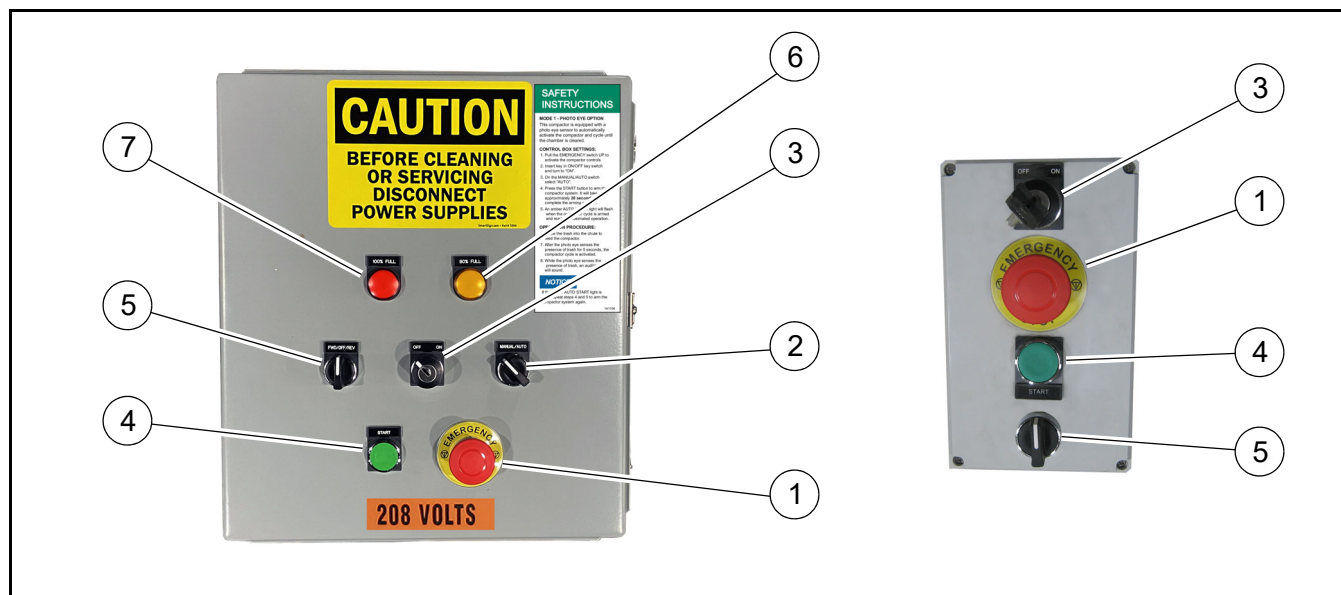

Figure 16
2. Pull UP on the EMERGENCY Switch (**Figure 16, 1**) to enable the Compactor controls.
3. Insert key in OFF/ON Security Switch (**Figure 16, 3**) and turn clockwise to ON position.
4. Determine pack mode and make selection on MANUAL/AUTO Switch (**Figure 16, 2**).
1. Depress the START Button (**Figure 16, 4**) for 1 to 2 seconds, then release.
1. The FWD/OFF/REV Switch (**Figure 16, 5**) is normally in the OFF position.
There are two container full lights located at the top of the control panel cover. The yellow 80% FULL light (**Figure 16, 6**) indicates when the container is approximately 80% of full capacity. The red 100% FULL light (**Figure 16, 7**) indicates when the container is full and has reached 100% capacity.
- Push DOWN on the EMERGENCY Switch (**Figure 16, 1**) to disable controls.
- Insert key in OFF/ON Security Switch (**Figure 16, 3**) and turn clockwise to ON position.
- Rotate the MANUAL/AUTO Switch (**Figure 16, 2**) to select the MANUAL position.
- Select and hold the FWD/OFF/REV Switch (**Figure 16, 5**) in the FWD position. Continue to hold the switch until the ram cylinders are fully extended to clear all trash from the compactor chamber.
- Select and hold the FWD/OFF/REV Switch (**Figure 16, 5**) in the REV position. Continue to hold the switch until the ram cylinders a fully retracted.
- Insert key in OFF/ON Security Switch (**Figure 16, 3**) and turn counterclockwise to OFF position.